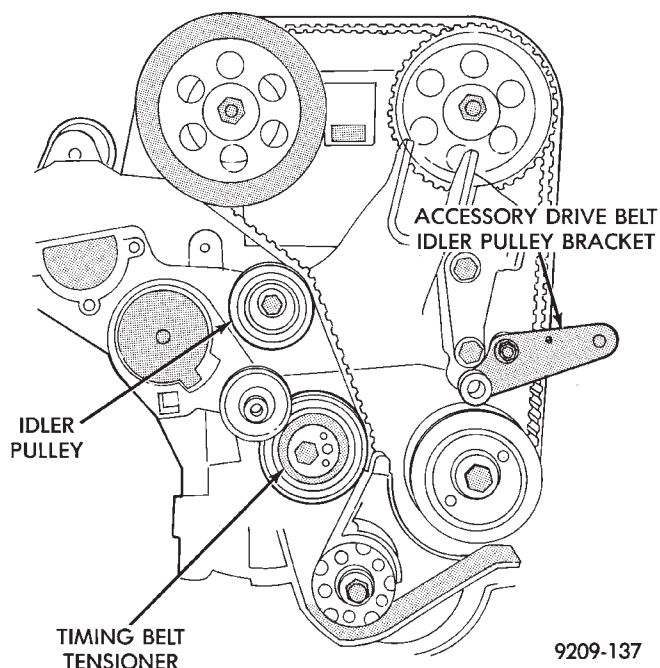

Fig. 6 Remove Timing Belt
- (3) Raise vehicle on a hoist. Remove lower accessory drive belt idler pulley bracket assembly (Fig. 6).
(4) Loosen timing belt tensioner, remove timing belt and idler pulley (Fig. 6).
(5) Lower vehicle